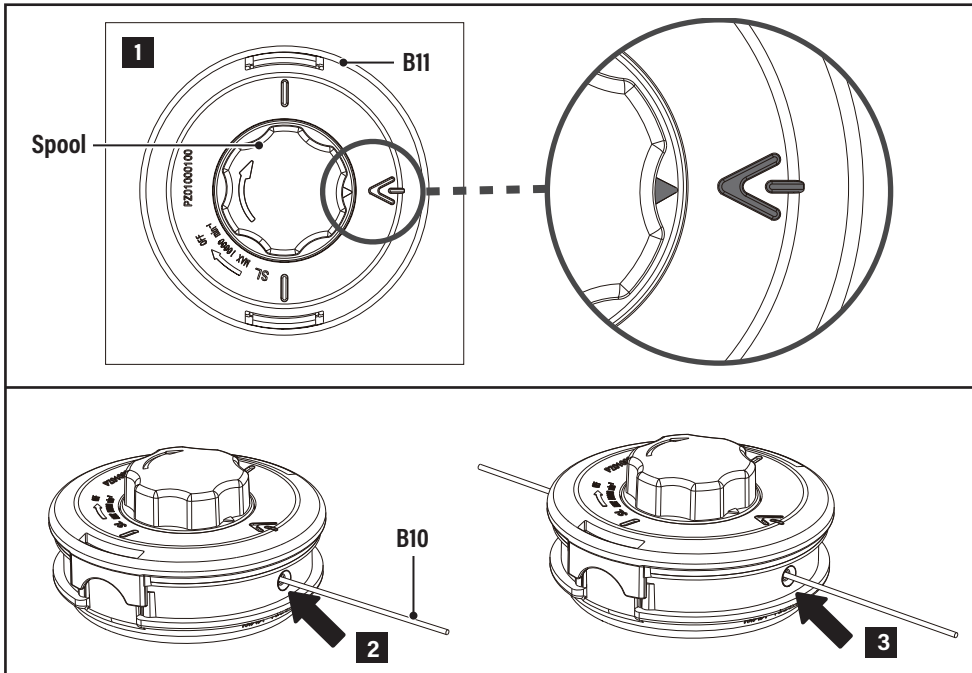

Fig. 16
1. Press and rotate the spool head to align the arrow on spool head and the line on the cover of the string trimmer head (B11) (Fig. 16, step 1).
3. Insert one end of the cutting line (B10) into the eyelet on the housing of the string trimmer head (B11) and the spool in the trimmer head. Insert the cutting line until emerges from the hole on the opposite side of the string trimmer head (Fig. 16, step 2).
4. Pull the cutting line (B10) out to approx. 2m in length (Fig. 16, step 3).